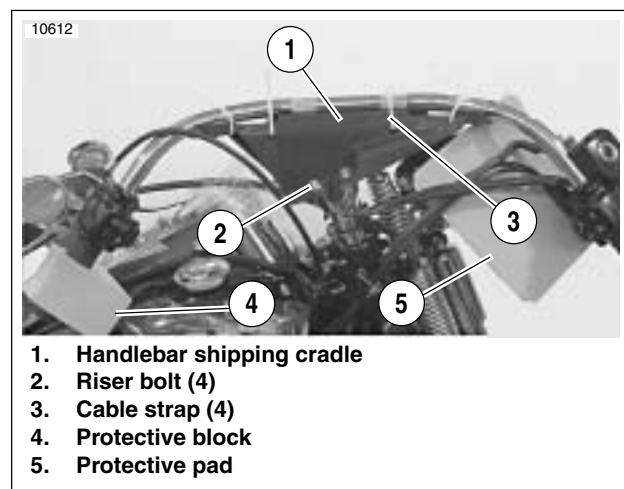
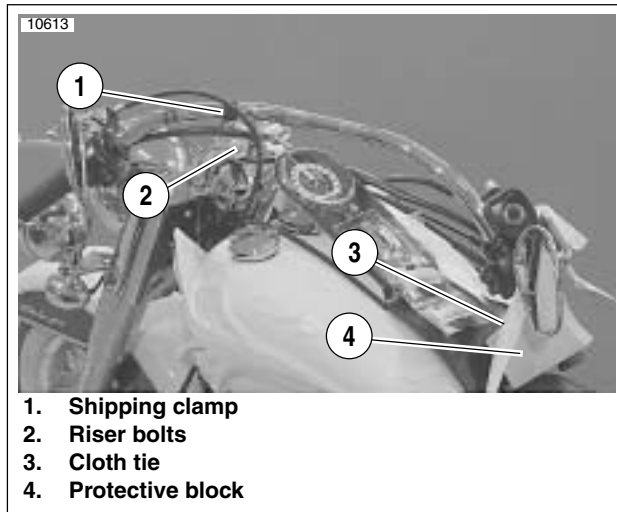
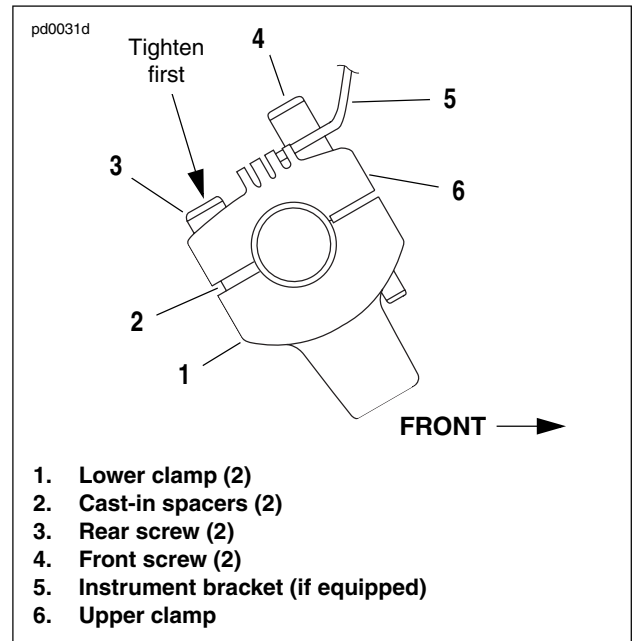

Figure 1-5. FLSTSC
Figure 1-6. FLSTN
Figure 1-10. XL 883, XL 883L, XL 1200R, Dyna Glide and Some Softail Models
1. See Figure 1-5. While holding handlebars, remove the riser bolts (2) securing handlebar shipping cradle (1) to risers. Retain the four bolts, discard washers.
2. While holding the handlebar shipping cradle, cut cable straps (3). Discard cradle and cable straps. Remove and discard protective block (4) from left handlebar grip.
5. See ADJUSTING HANDLEBARS– ALL MODELS and Figure 1-10. Following the Dyna Glide, Softail, XL 883, XL 883L and XL 1200R Models procedure, adjust the handlebars and tighten the riser bolts to 12-15 ft-lbs (16.3-20.3 Nm) in the sequence given.
1. See Figure 1-6. Remove and discard cloth tie (3) securing handlebar.
2. Remove the riser bolts (2) and shipping clamp (1) from handlebar risers. Retain the bolts. Remove and discard protective block (4) from right handlebar grip.
6. See ADJUSTING HANDLEBARS- ALL MODELS and Figure 1-10. Following the Dyna Glide, Softail, XL 883, XL 883L and XL 1200R Models procedure, adjust the handlebars and tighten the riser bolts to 12-18 ft-lbs (16.3-24.4 Nm) in the sequence given.
1. See Figure 1-10. Loosen four screws (3 and 4) of handlebar upper clamp (6).